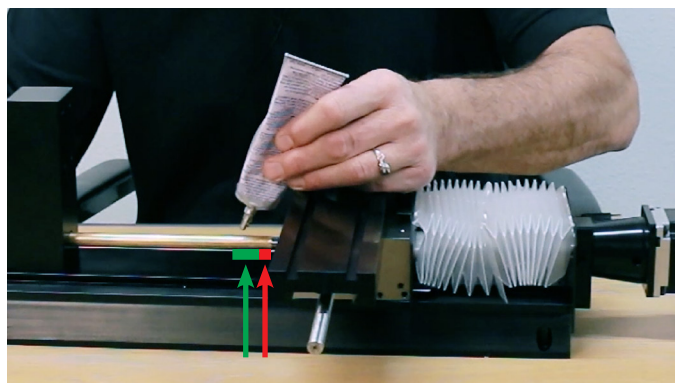

FIGURE 13—The green section above shows where to apply the silicone. The red section needs to be kept clear.
2. Put the brass cover through the hole in the column base and slide it over the ball screw. It should fit snugly into the backside of the saddle, but you can use silicone or E6000 goop to keep the cover in place when you are moving the axis back and forth. Apply the silicone to the brass tube in a thin coat, using your finger, while rotating the tube. Make sure that you keep the first half inch of the tube clean. You DON'T want to get any foreign substance on the ball screw (see Figure 13).